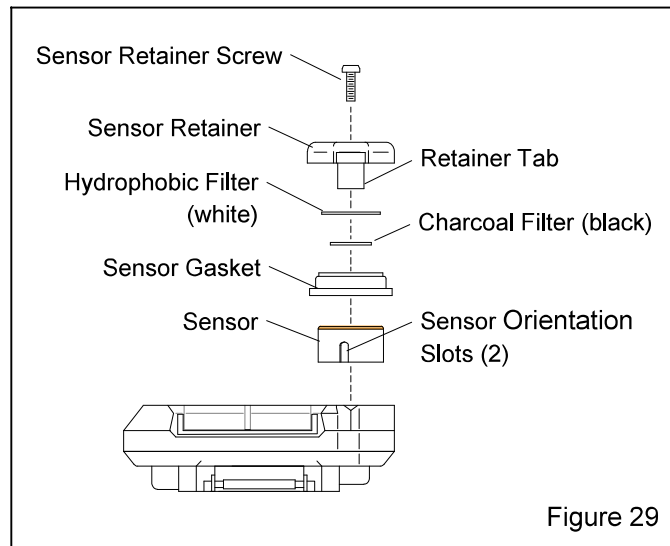
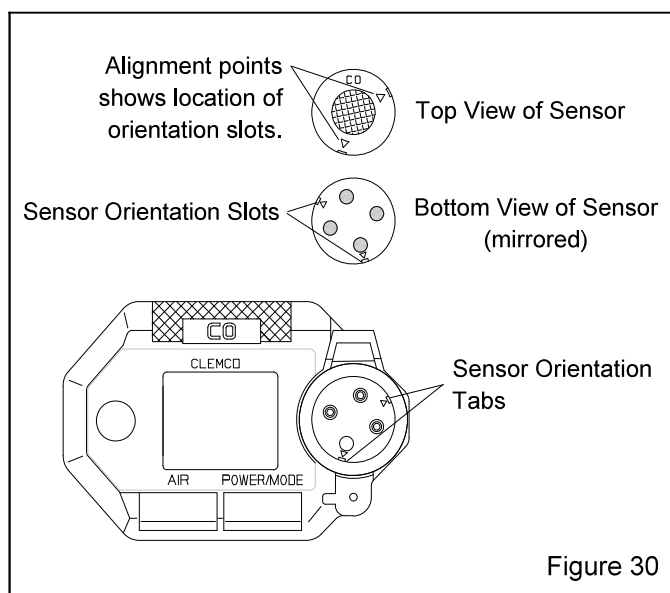

Figure 29
Figure 30
6.2 Replacing the Sensor – Figures 29 and 30
- 6.2.5** Remove the old sensor by pulling it straight up from the sensor socket. **NOTE: The bottom of the sensor is slotted and can only be inserted in the socket one way, as shown in Figure 29. Before removing the sensor, note the orientation of the old sensor alignment points, as shown in Figure 30. The new sensor will insert with the same orientation.**
6.2.6 Carefully insert the replacement sensor. Make sure the sensor face with the colored ring is facing up, and that the sensor's orientation slots are aligned correctly with the tabs within the socket, as shown in Figure 30. Do not force the sensor into its socket; if the sensor is correctly aligned, it easily sets into the socket.